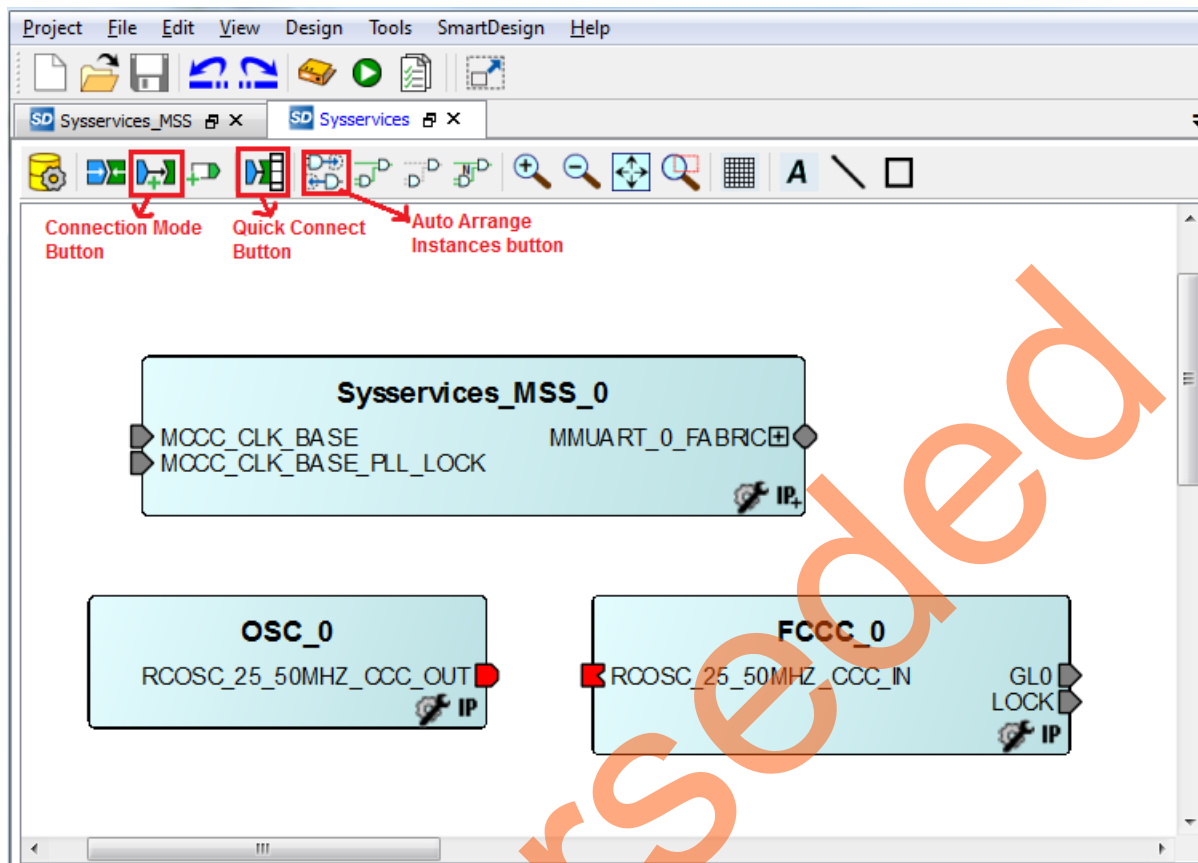
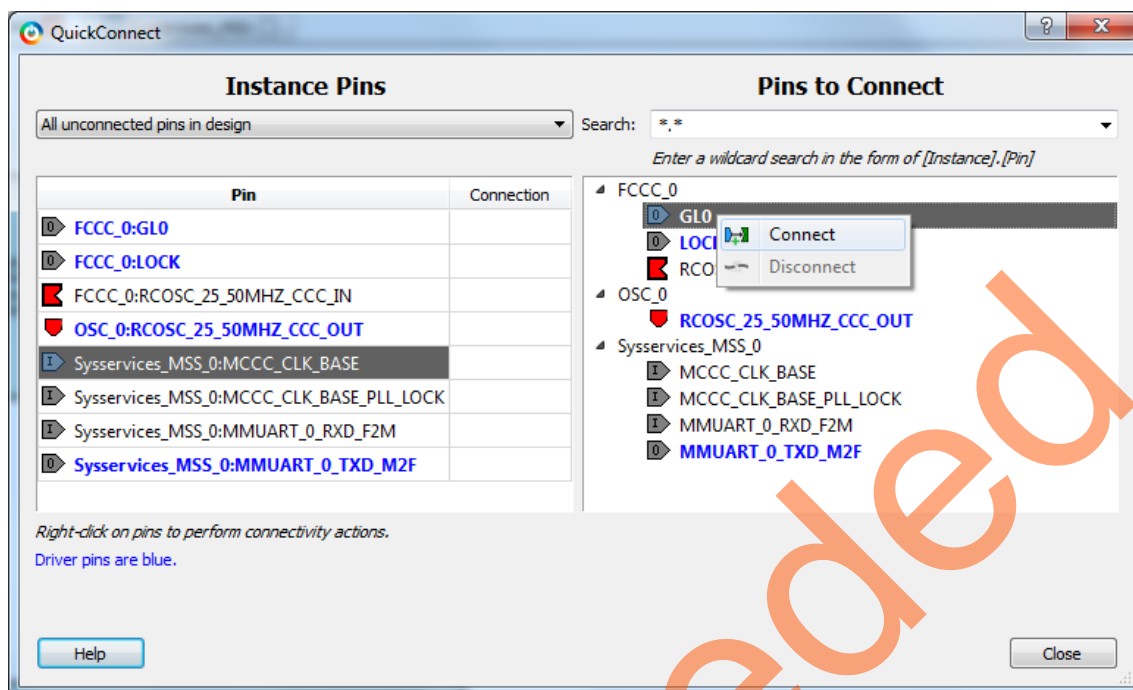

Figure 18 • Sysservices SmartDesign
Figure 19 • Quick Connect Window
- The first method is by using the **Connection Mode** option. To use this method, change the SmartDesign to connection mode by clicking the **Connection Mode** button on the SmartDesign window, as shown in Figure 18 on page 17. The cursor changes from the normal arrow shape to the connection mode icon shape. To make a connection in this mode, click on the first pin and drag-drop to the second pin that you want to connect.
- The third method is by using the **Quick Connect** option. To use this method, change the SmartDesign to quick connect mode by clicking on **Quick Connect** mode on the SmartDesign window, as shown in Figure 18 on page 17. Quick connect window will be opened. Find the **Instance Pin** you want to connect and click to select it. In **Pins to Connect**, find the pin you wish to connect, right-click and choose **Connect** as shown in Figure 19 on page 18.